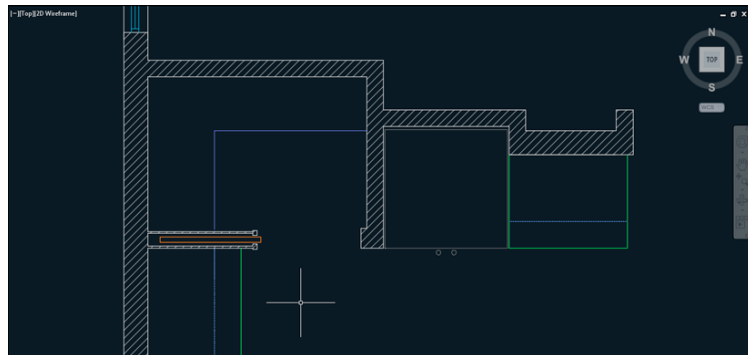

FIGURE 2.2 Navigating to focus on the refrigerator
4. For an alternative method, press and hold the mouse wheel and pan the drawing to center the refrigerator on the canvas (as shown in Figure 2.2).